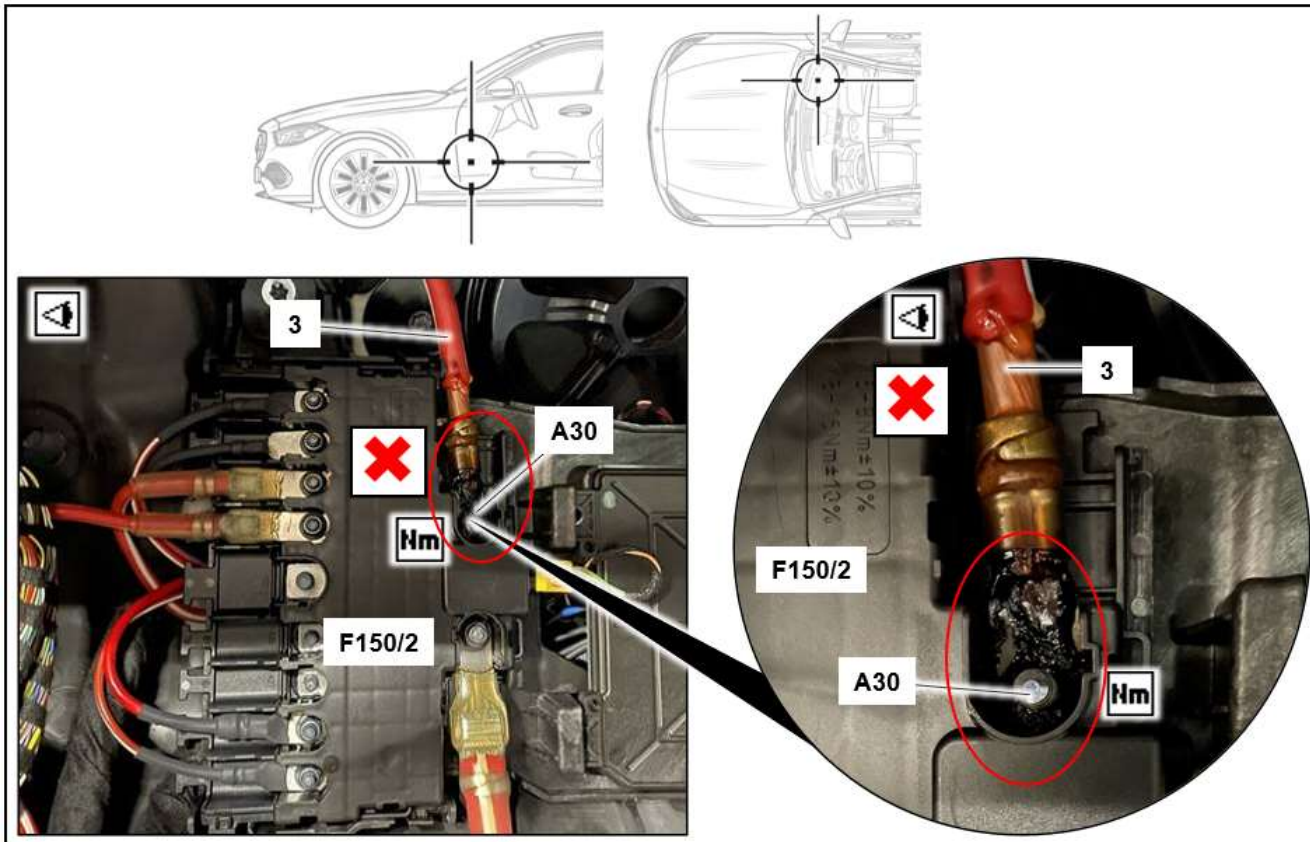

Figure 2 (prefuse box with thermal damage, NOK)
4. Inspect electrical connection (**Figure 2, A30**) of prefuse box **F150/2** visually for physical damage, such as arcing, scorch marks, melting and/or missing nut.
- If there is no damage to the electrical connection (**Figure 2, A30**), remove electric line (**Figure 2, 3**) at A30 connection and inspect the underside for damage. If there is no damage, re-install the electrical connection with nut (tightening torque of **16 Nm**) and **End Measure**.
- If there is damage to the electrical connection (**Figure 2, A30**), carry out **Work Procedure**.
i Replace damaged prefuse box (Figure 2, F150/2) and/or install missing nut on electrical connection (Figure 2, A30). For basic information, see AR54.15-P-1350WT.